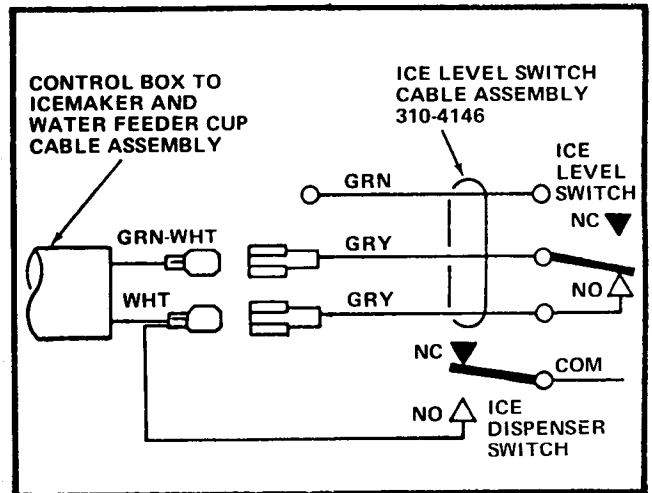

FIGURE IV-5
- V. Attach the 2 quick-disconnect Terminals on the ends of the replacement Ice Level Switch Cable Assembly to the quick-disconnects on the Control Box To Icemaker And Water Feeder Cup Cable Assembly. The polarity of the connection is not imperative. See Figure IV-5.